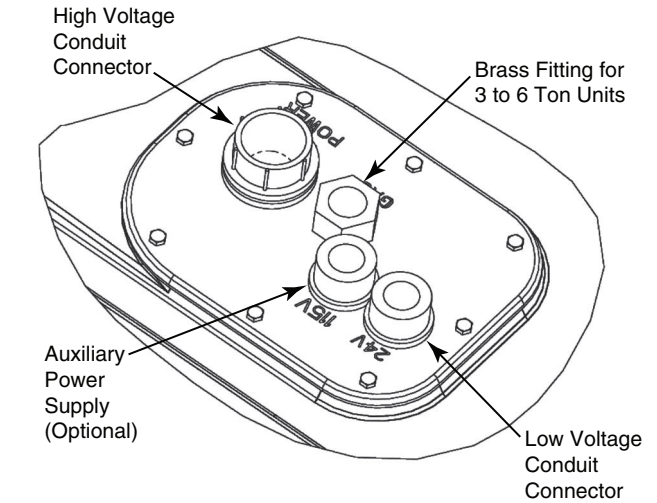

Fig. 18 — Thru-Base Connection Fittings
The 3/4 in. bulkhead connector enables the low-voltage control wires to pass through the basepan. The 1/2 in. bulkhead connector allows the high-voltage power wires to pass through the basepan. See Fig. 18.
- Place the gasket over the embossed area in the basepan, aligning the holes in the gasket to the holes in the basepan. See Fig. 18.